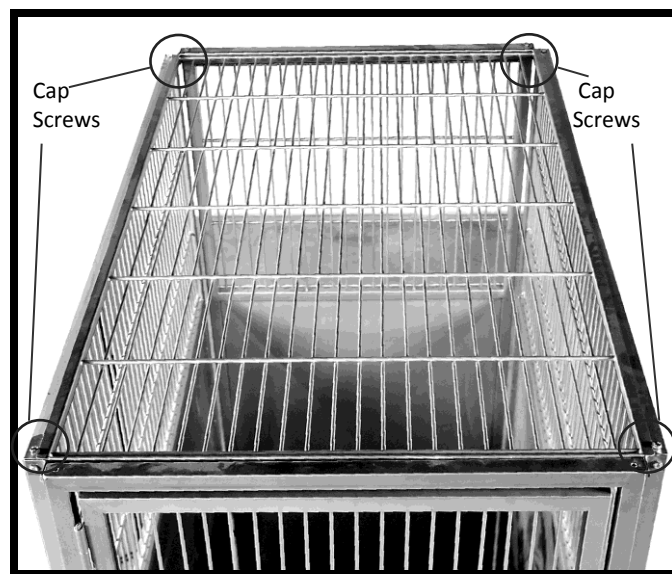

Figure 38: Installing the Top Panel
1. With a 1/2 in. wrench, remove the four cap screws from the tops of the end and partition panels (Figure 38). There are no cap screws in the swinging gate and back panel.